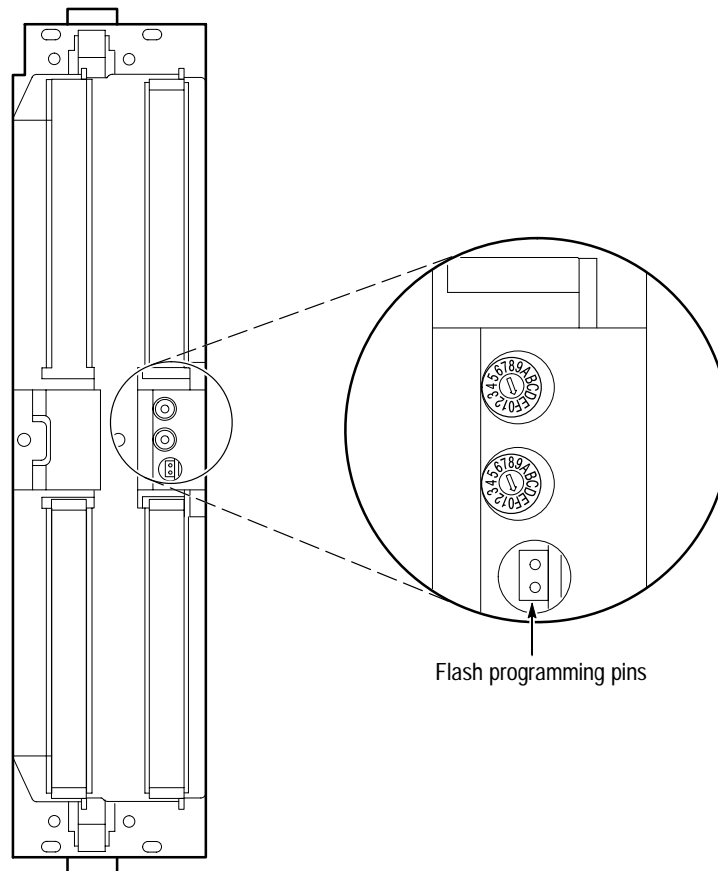

Figure 21: Flash programming pins
5. Refer to Figure 21 and locate the Flash programming pins on the rear of the module.